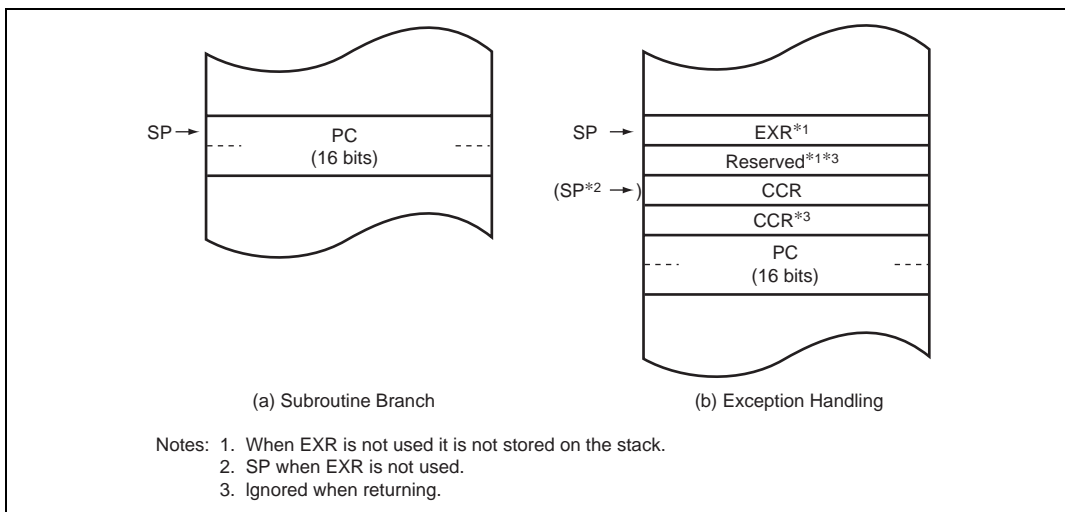

Figure 2.2 Stack Structure in Normal Mode
In normal mode, when the program counter (PC) is pushed onto the stack in a subroutine call, and the PC, condition-code register (CCR) and extended control register (EXR) are pushed onto the stack in exception handling, they are stored as shown in figure 2.2. EXR is not pushed onto the stack in interrupt control mode 0. For details, see section 4, Exception Handling.